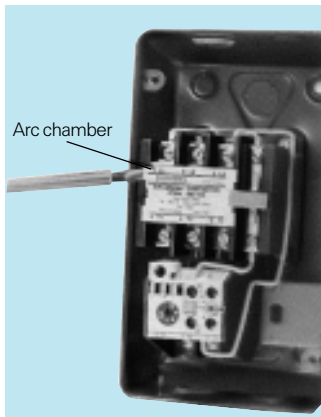

Fig. 7 Removal of arc chamber
- Remove the existing arc chamber as shown in Fig. 7.
- Remove the Arc Chamber. (Fig. 7)